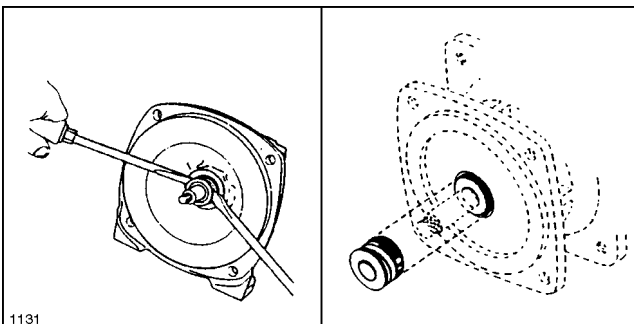

FIG. 22
1. Lightly lubricate shaft with mineral oil or glycerin for easier removal of seal. Using two screwdrivers positioned opposite each other, pry the rotary portion of the seal from the shaft. See FIG. 22.
4. To install the rotary portion of the mechanical seal, place it over the shaft with the carbon side facing in, and press until it bottoms out against the stationary portion. Install rubber spacer. See FIG. 22.